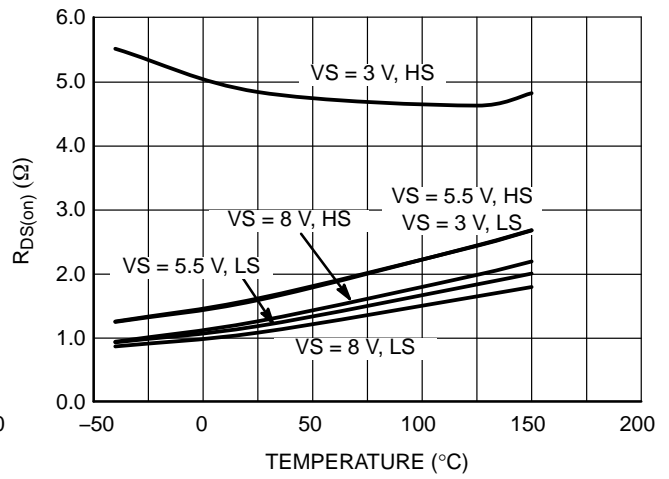

Figure 12. RDS(on) vs. Temperature
8. Refer to Figures 12 and 15 for  $R_{DS(on)}$  behavior.